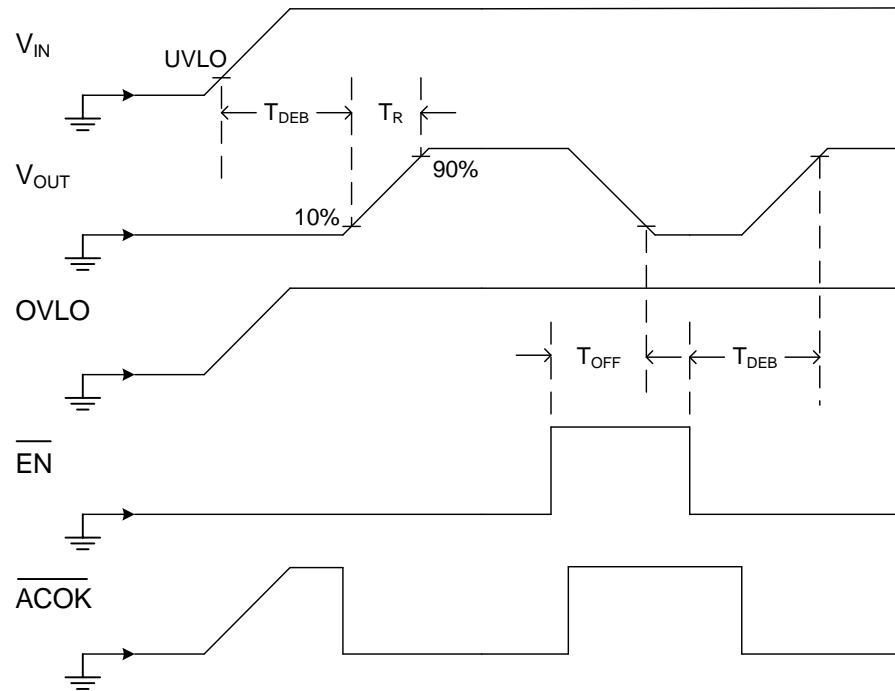

Figure 1. Ramp-up and $\overline{\text{EN}}$ Toggling
9. Timing as defined in Figure 1.